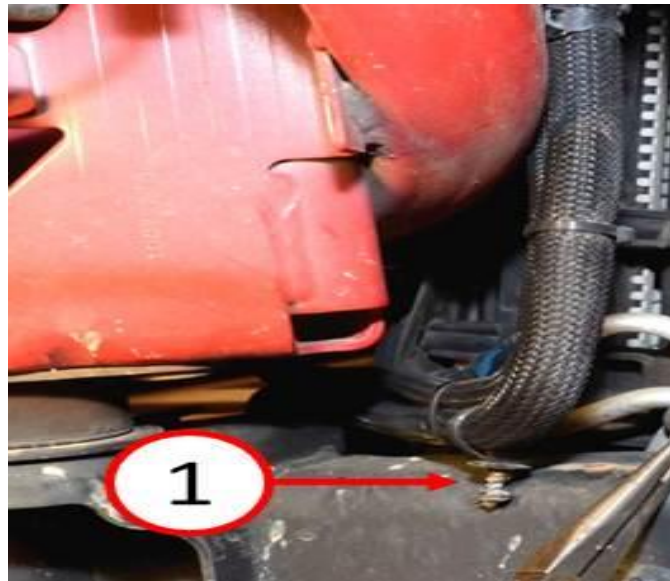

Fig. 2 Power Steering Hose Retainer
3. Disengage the power steering hose retainer from the left frame rail (Fig.2).